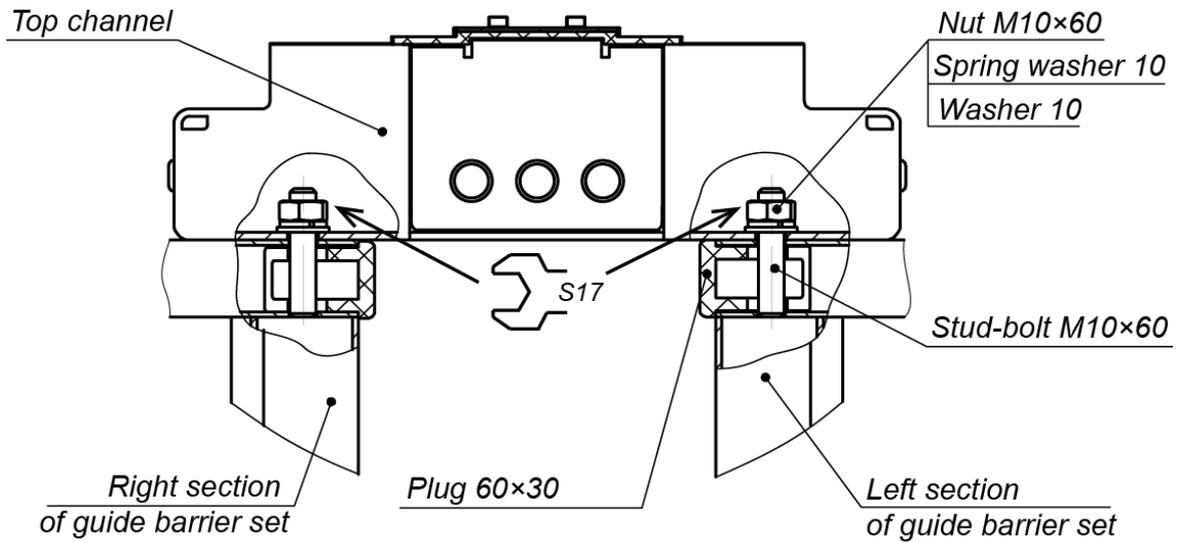

Figure 15. Top channel (8) to guide barrier sections (6) fastening
- Using two stepladders, lift the top channel and lean it above the turnstile so that two stud-bolts installed in the guide barrier sections (6) get into the corresponding wholes of the channel. Do not damage the connecting cables!
- Holding the channel, lift it from the side of the post with barrier arms (5) and lay the cable ends through the corresponding wholes of the top channel: indication cables (12) through the supporting girder (7); control and power cables through the post with barrier arms (5) (for cable laying option from the ground). Temporary fasten them inside the channel (for example, with the tape).
- Fix the top channel to the guide barrier sections with two bolts M10 with washers (Fig. 15), using the socket wrench S17. Do not tighten the stud-bolts for later adjustment.